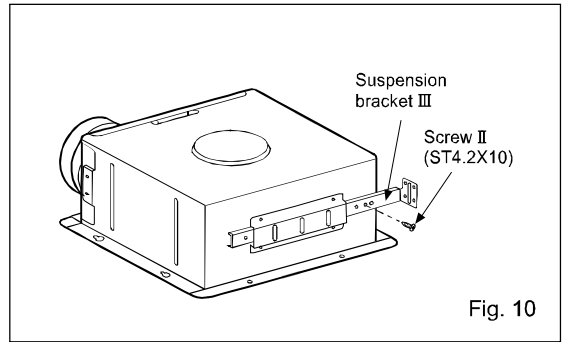

Fig. 10
2. Connect the suspension bracket III to fan body. (Fig. 10) (Select the hole by checking I-joist size fix the screw to the frame hole.)